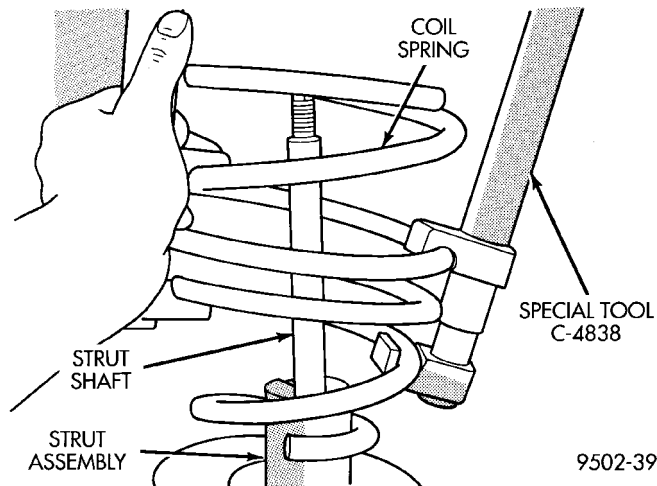

Fig. 65 Strut Assembly Coil Spring
(8) Remove the coil spring from the strut assembly (Fig. 65). **Mark left and right on the coil springs for their installation back on the correct side of the vehicle.**
(2) Install the compressed coil spring onto the strut. Coil spring is to be installed with smaller coil down, so spring correctly seats on strut assembly (Fig. 65).